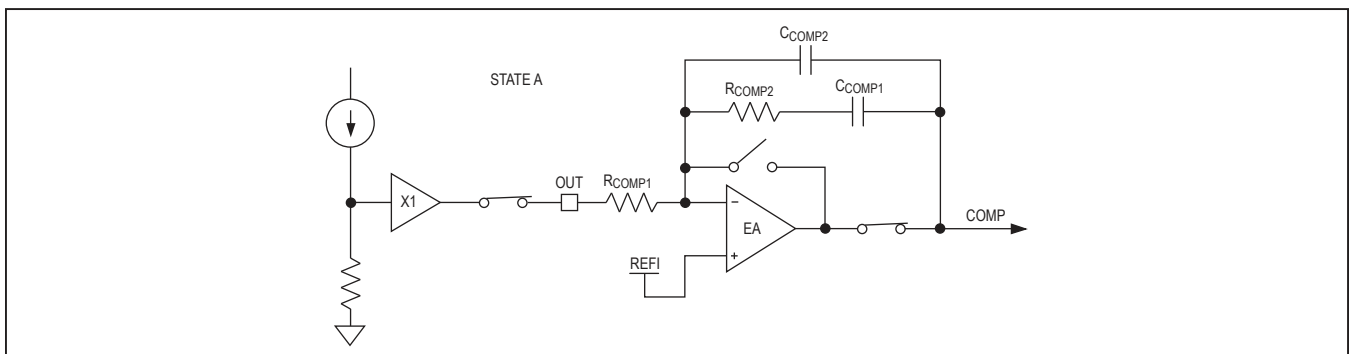
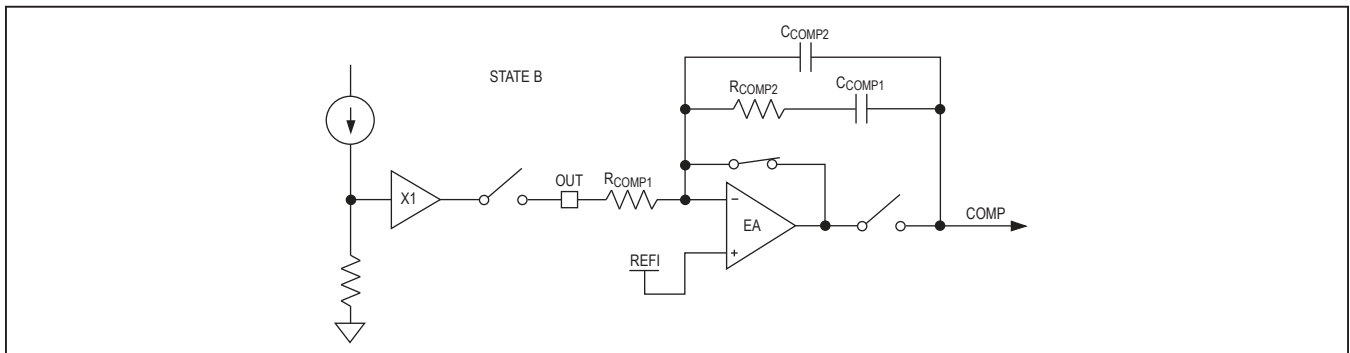
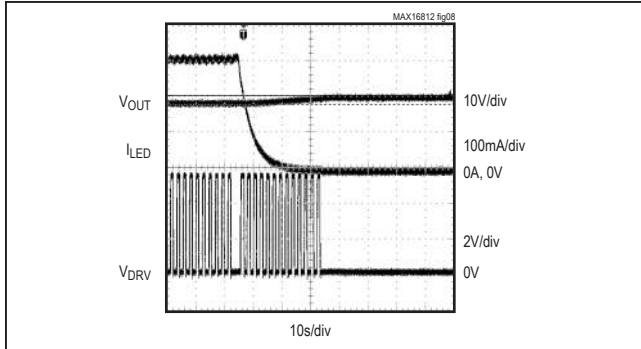

Figure 4. Internal Error Amplifier Connection (Dimming Signal High)
Figure 5. Internal Error Amplifier Connections (Dimming Signal Low)
Figure 8. LED Current, Output Voltage, and DRV Waveforms when DIM Signal Goes Low
The MAX16812 includes a built-in voltage-error amplifier, which can be used to close the feedback loop. The internal LED current-sense output signal is buffered internally and then connected to CS\_OUT through an internal switch. CS\_OUT is connected to the inverting input (FB) pin of the error amplifier through a resistor. See Figures 4 and 5. The reference voltage for the output current is connected to REF1, the noninverting input of the error amplifier. When the internal dimming signal
is low, COMP is disconnected from the output of the error amplifier and CS\_OUT is simultaneously disconnected from the buffered LED current-sense output signal (Figure 5). When the internal dimming signal is high, the output of the op amp is connected to COMP and CS\_OUT is connected to the buffered LED current-sense signal at the same time (Figure 4). This enables the compensation capacitor to hold the charge when the DIM signal has turned off the internal switching MOSFET gate drive. To maintain the charge on the compensation capacitors CCOMP1 and CCOMP2, the capacitors should be of the low-leakage ceramic type.
PWM dimming can also be achieved by connecting TGRM to a DC voltage less than  $V_{REF}$  and applying the PWM signal at DIM. The moment the internal dimming signal goes low, gate drive DRV to the internal switching MOSFET is turned off. The error amplifier goes to state B (see the *Internal Error Amplifier* section and Figures 4 and 5). The peak current in the inductor prior to disabling DRV is  $I_{LX}$ . Gate drive DGT to the external dimming MOSFET is held high. Then after a switchover period, gate voltage  $V_{DGT}$  on the external dimming MOSFET is linearly controlled to reduce the LED current to 0. The fall time of the LED current is controlled by an internal timing circuit to  $5\mu s$  for the MAX16812. During this period, the gate (DRV) to the internal switching MOSFET is enabled. After the fall time, the gate drive to the external dimming MOSFET is turned off and the gate drive to the internal switching MOSFET is still held high after the switchover period. The peak current in the inductor is controlled at  $I_{LX}$ . Then after a time period of  $20\mu s$ , the gate drive is disabled. The scope shots in Figures 8–11 show the dimming waveforms.
When the DIM signal goes high, the LED current is gradually increased to the programmed value. The rise time of the LED current is controlled to 5 $\mu$ s for the MAX16812 by controlling the voltage on DGT. After the rise time, an internal sensing circuit monitors the voltage across the drain to the source of the external dimming MOSFET. The LED current is now controlled at the programmed value by a linear current regulating circuit. Once the voltage across the drain to source of the dimming MOSFET drops below 0.5V, the reference for the linear current regulating circuit is increased to 1.1 times the programmed value. The gate drive (DRV) to the internal switching MOSFET is enabled and the error amplifier is returned to state A (see the *Internal Error Amplifier* section and Figures 4 and 5).